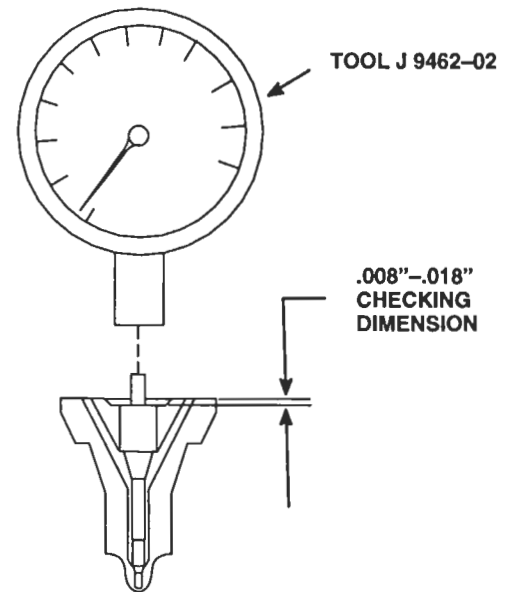

Figure 22. Checking Needle Valve Lift
- a. Measure the needle valve lift, using tool J 9462-02 (Figure 22.) as follows: